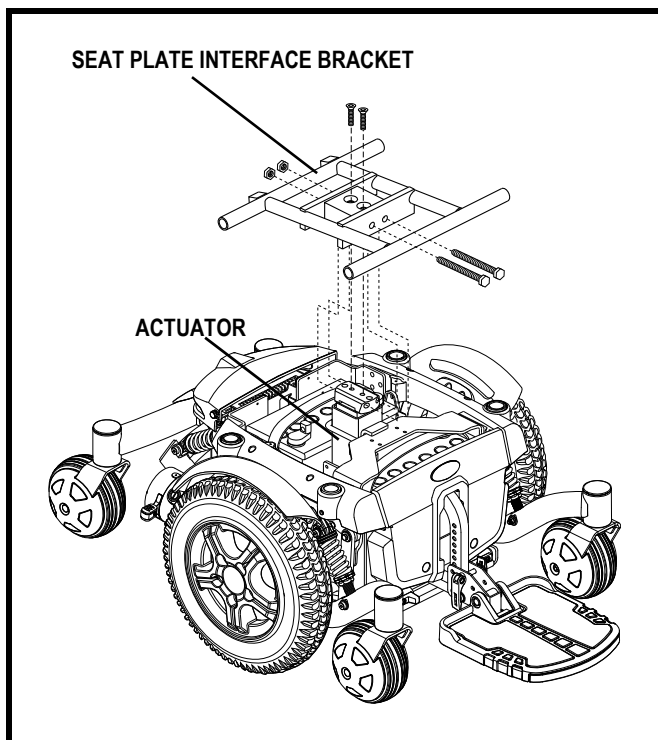

Figure 14. Power Seat Actuator
1. Place the seat plate interface bracket onto the actuator. See figure 14.
2. Insert screws into the actuator and insert and tighten the hardware. See figure 14.